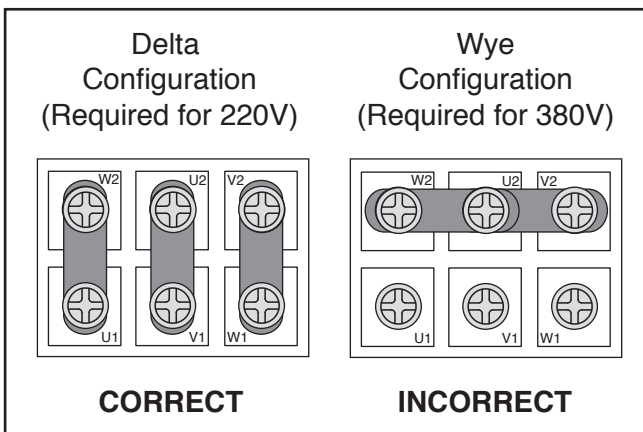

Figure 41. Vacuum pump junction box configurations.
3. Verify terminal jumpers are arranged in 220V delta configuration (see Figure 41).